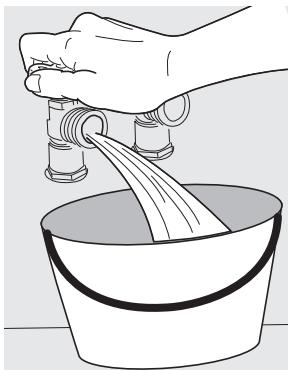

Fig. 1
- Run some water from the hot and cold faucets to flush the water lines and remove particles that might clog the water valve screens and to determine which faucet is hot and which is cold supply. (Fig. 1).